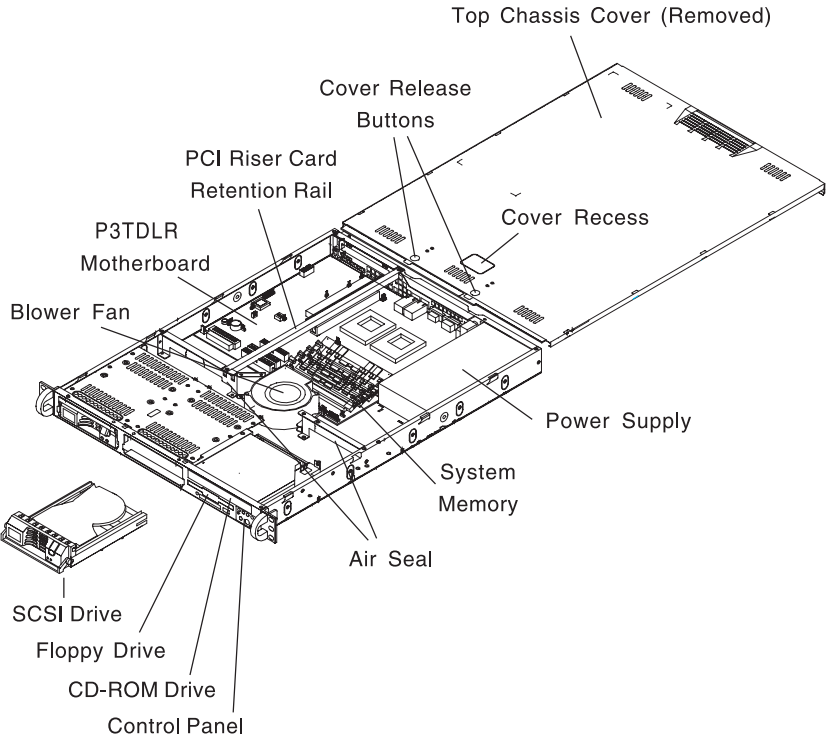

Figure 2-5. Accessing the Inside of the SuperServer 6011L (with one SCSI Drive removed)
1. Accessing the inside of the 6011L (see Figure 2-5):